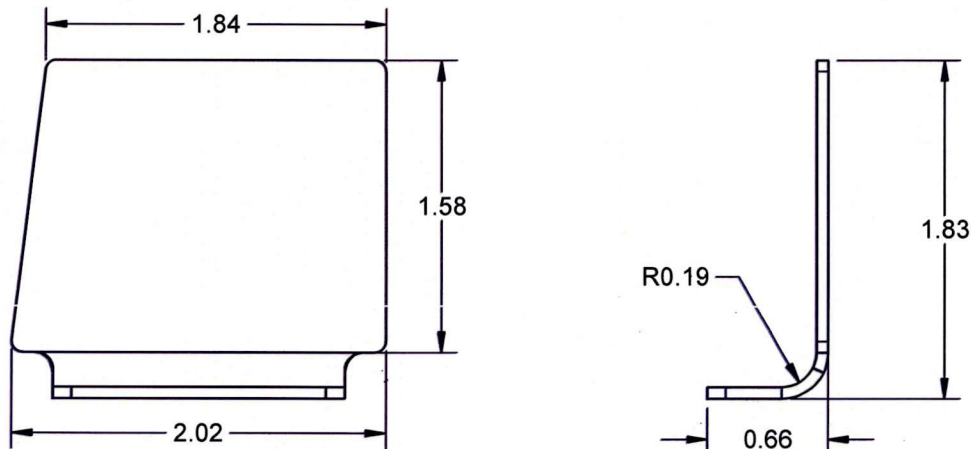

FIGURE 2: BENT L-BRACKET
- 2.2 Fabricate two new L-Brackets per Figure 2 and 3 using 0.063 thick 2024-T3 aluminium sheet per AMS-QQ-A-250/4 or ASTM B209.